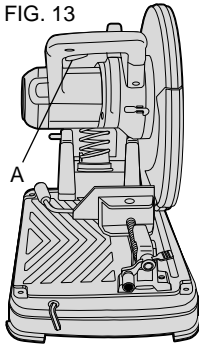

FIG. 14
Procedure For Permanent Mounting (Fig. 14)
1. Drill four holes 5/16" through the work surface. (Figure 14)